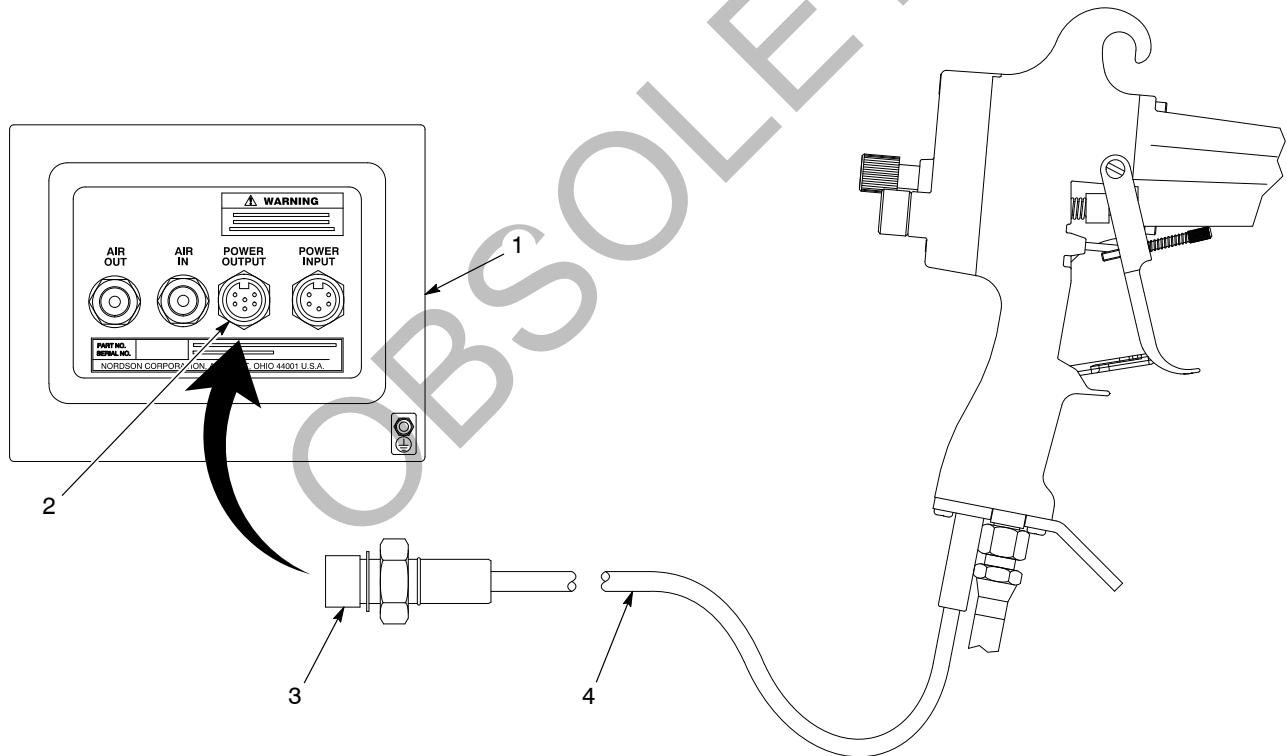

Figure 3-4 Electrostatic Cable Installation
See Figure 3-4. Connect the large round cable end (3) of the gun cable (4) to the POWER OUTPUT receptacle (2) on the back of the control unit (1).